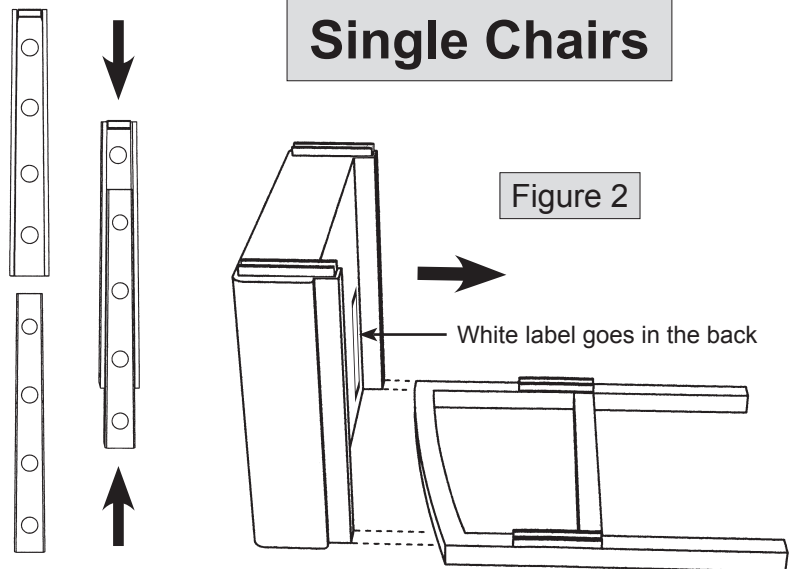

Figure 1
2. This chair is held together by use of **interlocking wedge** hardware, as shown in figure 1.
2. These chairs are held together by use of *interlocking wedge* hardware, as shown in figure 1 on opposite side of this sheet.